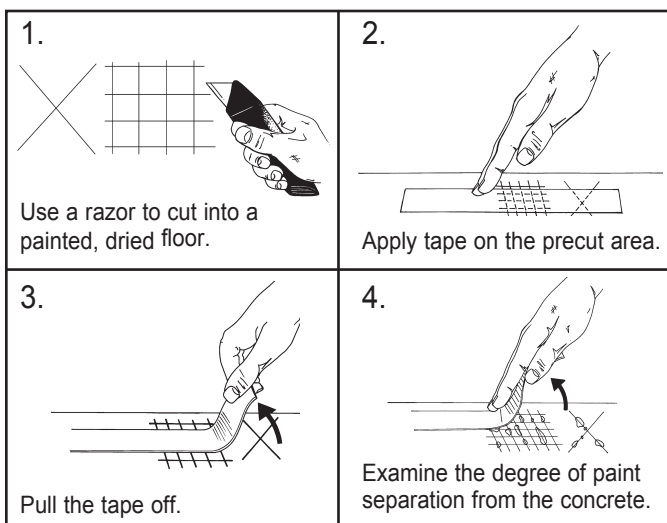

Figure 2. Adhesion test on the painted floor.
Allow newly applied paint to dry a minimum of 48 hours before proceeding with the test. At humidity levels over 55% RH, allow 72 hours of drying time before testing. Use a razor to cut a cross or a few perpendicular lines over a 3" by 3" (75 mm by 75 mm) area on several spots of the thoroughly dried area. (See Figure 2)
2. Combine separate cans of paint into one container to ensure uniform color distribution. It is recommended that a test area be coated to ensure that the adhesion and electrical performance of the paint is acceptable. (See Adhesion Testing, Figure 2.) If the test areas show inadequate adhesion, use an industrial floor primer/sealer.